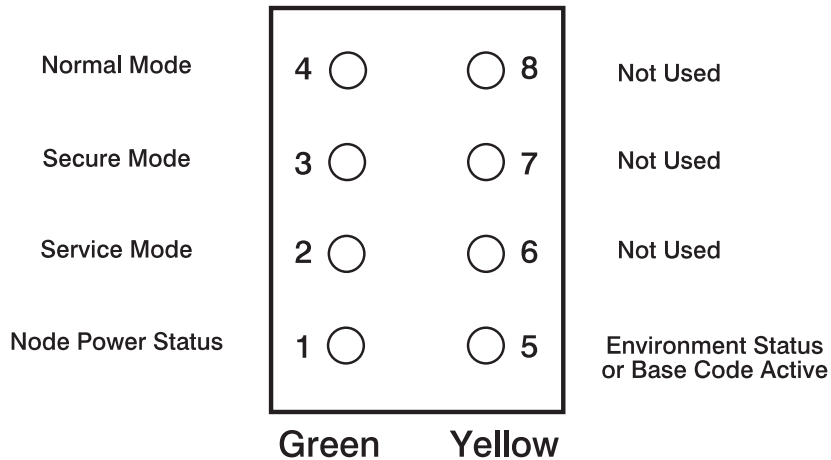

Figure 3-1. 604 and 604e High Node LEDs
2. Locate LED 5. See Figure 3-1.